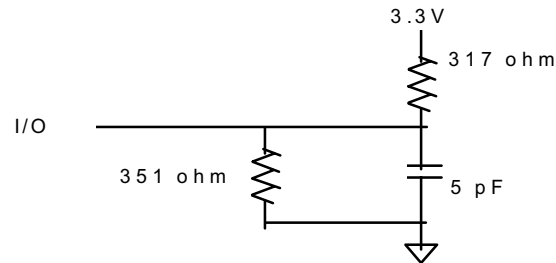

Fig.2 Output Load Equivalent
- Output loading is specified with $C_L = 5pF$ as in Fig. 2.